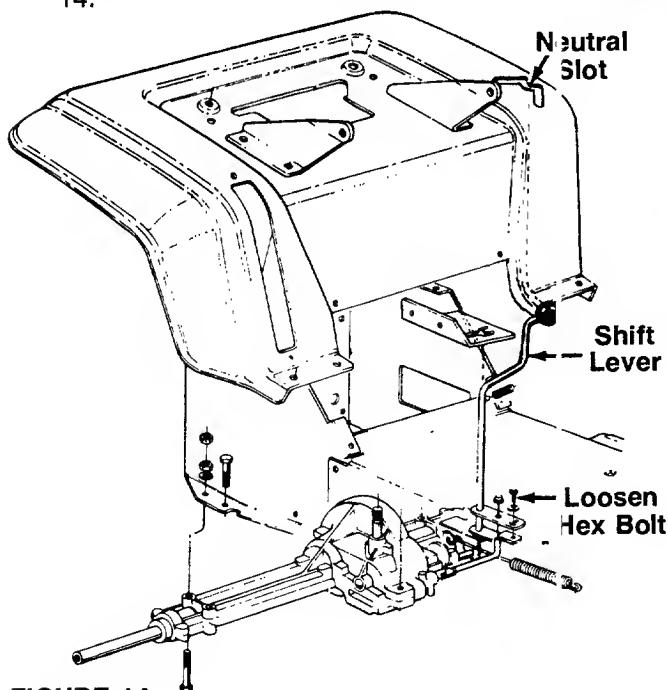

FIGURE 14.
2. Loosen the bolt which secures the shift lever assembly to the shift lever adjusting link. See figure 14.
3. Place the shift lever in the neutral slot. See figure 14.